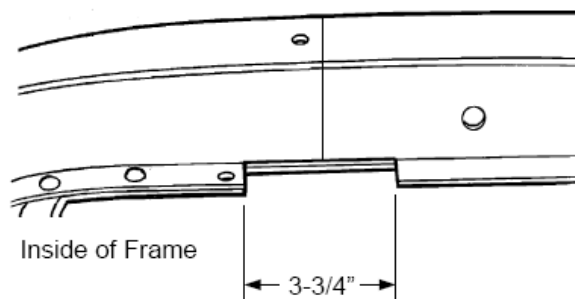

Figure 2- Trim Flange
3. The flange on the inside of the frame rails must be trimmed away in the area of the new center crossmember. Trim off the flange for a 3-3/4" length, 1-7/8" in front and 1-7/8" in back of the centerline mark. See **Figure 2**.